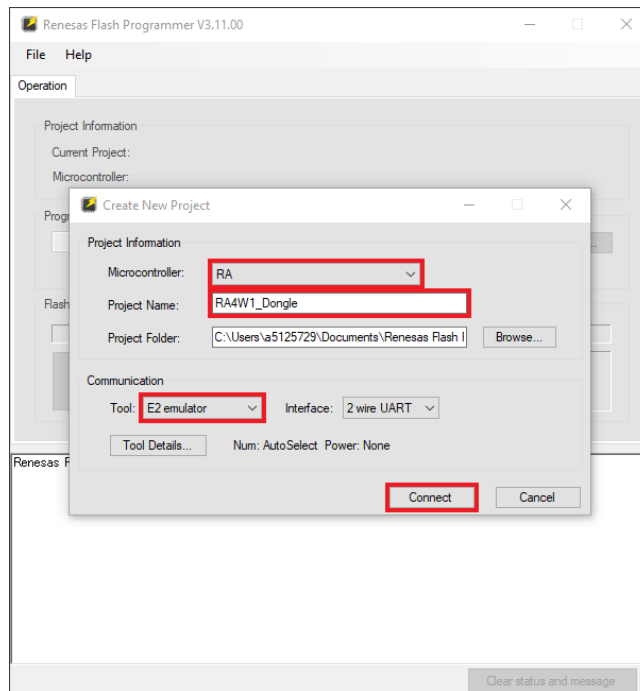

Figure 5. Creating a New Project in Renesas Flash Programmer
4. Run Renesas Flash Programmer and on the top menu select **File > New Project...** From the **Microcontroller:** drop-down menu select **RA** (Figure 5). In the **Project Name:** field enter RA4E1_Dongle. From the **Tool** drop-down menu, select **E2 emulator** or **E2 emulator Lite** and click on the **Connect** button.